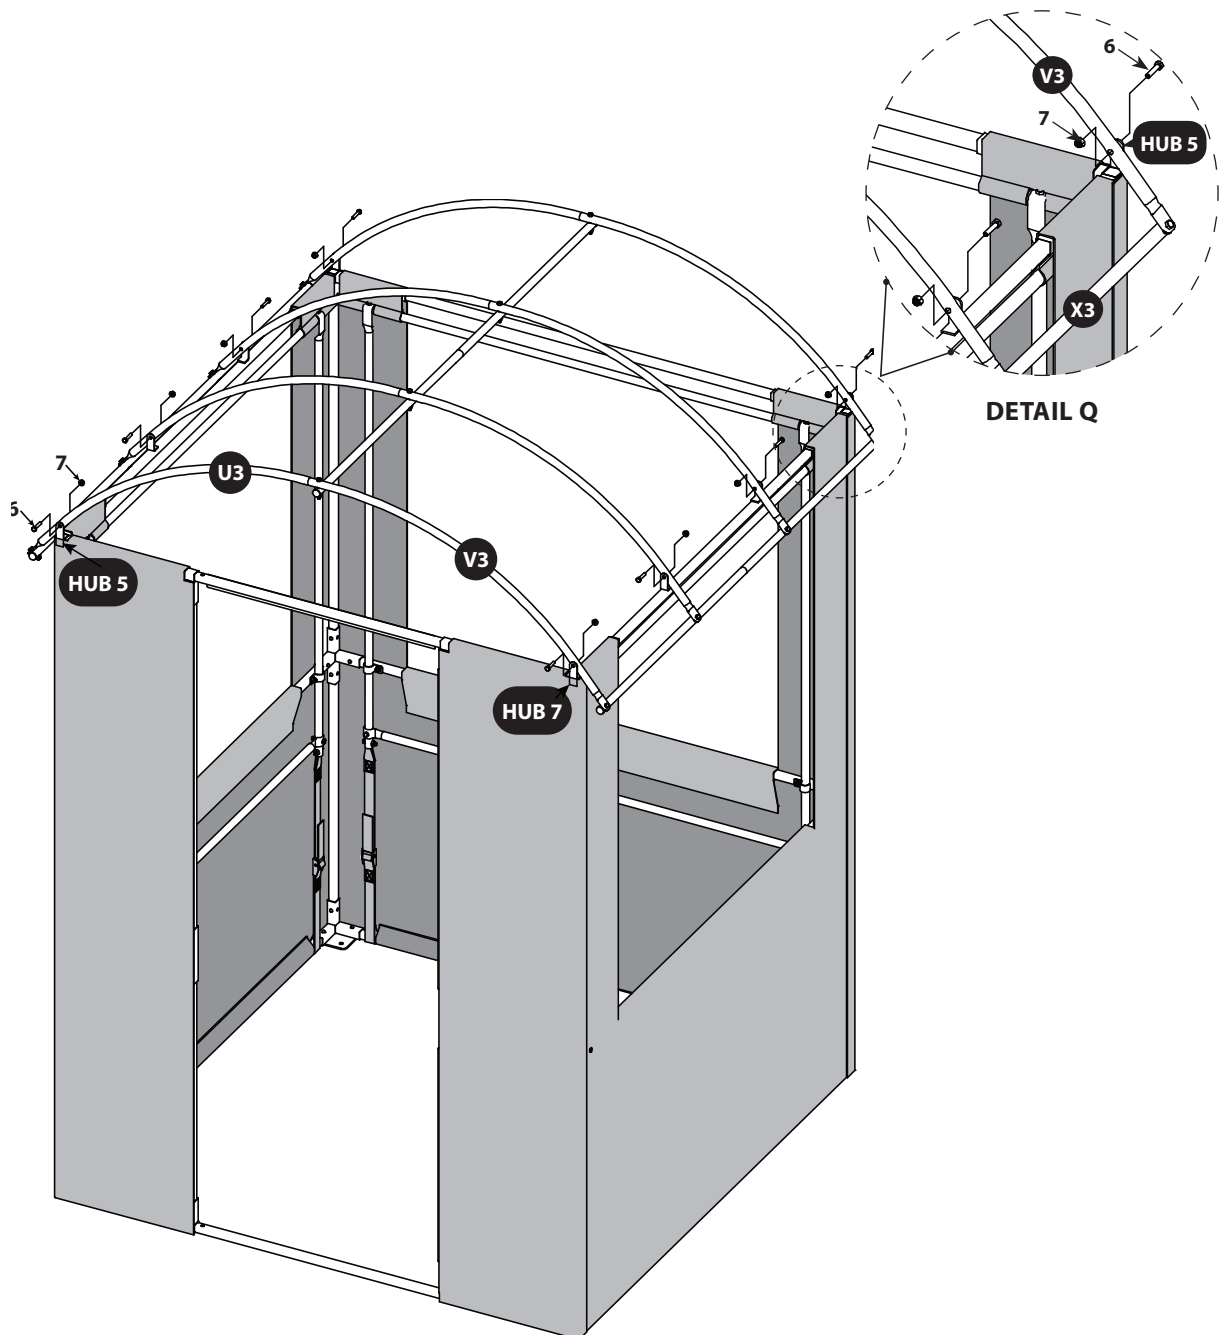

FIGURE 12
32. Attach assembled roof to blind structure using eight M6 x 30 MM bolts (6) and eight M6 nuts (7). Pay close attention to the orientation of the roof! The roof attaches to the inside of the (HUB 5) and (HUB 7) corner tabs. **SEE FIGURE 12 AND DETAIL Q.**